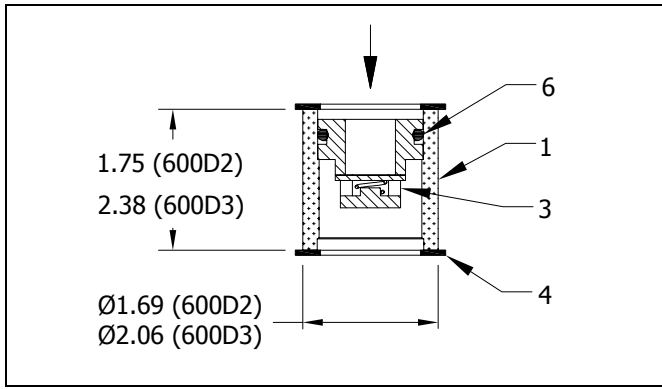

Figure 1: 600D2, 600D3
H.A. Phillips offers a wide variety of flanged normally-closed in-line disc-type check valves to prevent reverse flow in many refrigeration applications. These valves are summarized in Table 1 and illustrated in Figures 1 through 4. Many of these are directly interchangeable with Wolfe-Linde check valves. The 600D2 and 600D3 have metal-to-metal seats; all other check valves have PTFE-to-metal seats.
Refer to Figure 1 & Table 2. Remove valve piece (Item 3) by pulling out through the valve inlet, overcoming the friction of the O-Ring (Item 6). Apply O-Ring grease to O-Ring before installing new valve piece.